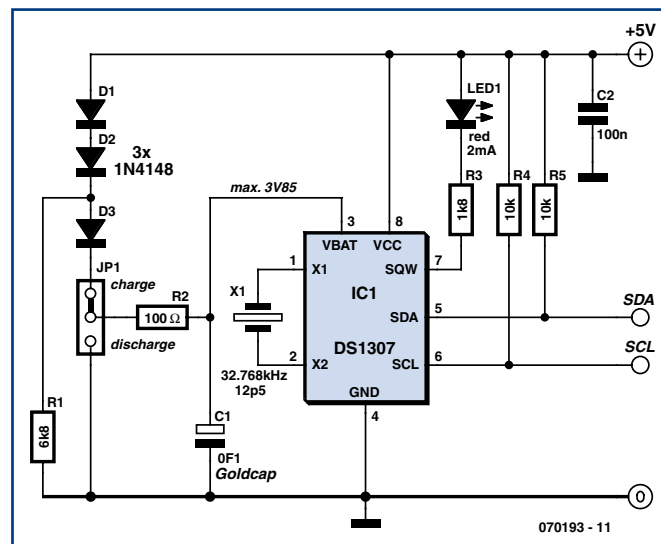

Figure 1: A few additional components are required to use a GoldCap to back-up the DS1307.
the output signal has twice the frequency of the input signal, as shown in **Figure 1**. In this example the phase difference between the signals is exactly 90°. This ensures that signal Y has a duty cycle of exactly 50%. When the
with the DS1307. As the supply voltage continues to fall below the battery voltage V_{BAT} the DS1307 switches into low-current mode. With these constraints in mind the circuit shown in **Figure 1** was produced. Resistor R1 draws current through diodes D1 and D2 which together produce a voltage drop of around 1.2 V. With a supply of 5 V the voltage at V_{BAT} is approximately 3.85 V. D3 prevents the GoldCap being discharged when the supply voltage falls and R2 limits the charging current (and discharge current when jumper JP1 is used to discharge C1, this process takes a few minutes).
The Dekatron consists (see **Figure 1**) of a central circular anode (a) and ten cathodes (k), numbered from 0–9. Between adjacent cathodes are two transfer electrodes, guides (A) and (B). A voltage applied between the anode (a) and the cathodes causes ionization of just one of the cathodes. To move on to the next cathode, a short negative pulse is applied to the next cathode. To drive a Dekatron takes a minimum of one triode or one transistor or a transformer, together with a differentiator circuit followed by an integrator. In the 60s, transistor circuits were developed for this purpose. *Note that the Dekatron shown in Figure 1 has a different pinout from the one in the circuit diagram. They are two quite different devices.*